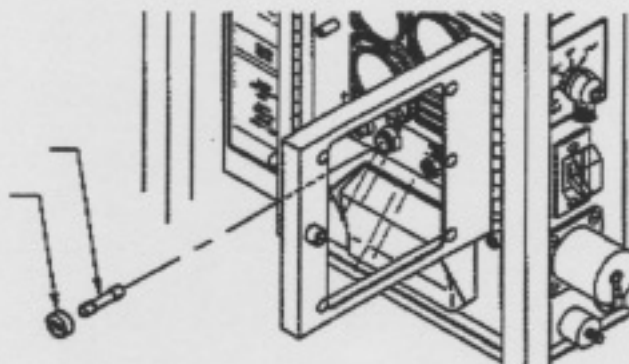

Figure D-1. Fuse (F1) Replacement Cap
3. Remove cap and fuse (Figure D-1).
1. Inspect fuse (Figure D-1) for cracks and burned out element. Discard fuse if defective. If necessary, remove spare fuse from spare fuse holder.
1. Insert fuse into fuse holder and install cap (Figure D-1).